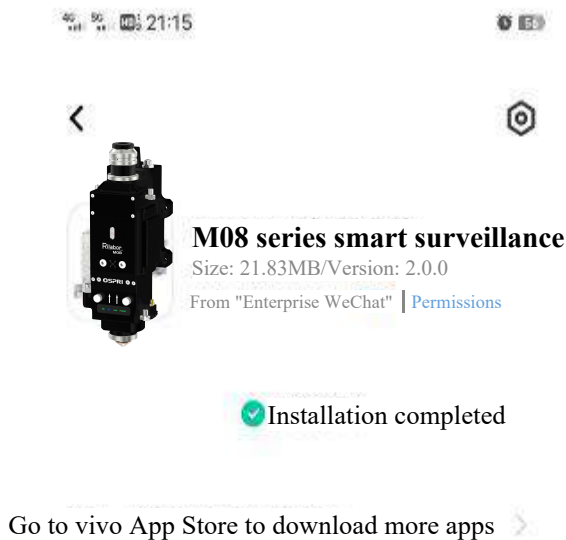
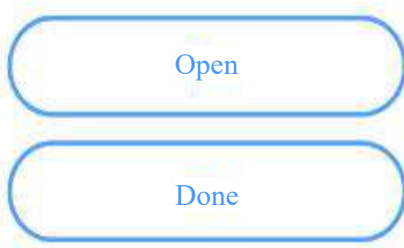

Figure 2.6
Figure 2.5
- ① After installation, the icon appears as shown in Figure 2.5; continue by clicking 'Install', and the icon after installation is shown in Figure 2.6. This APP currently only supports installation on Android devices.